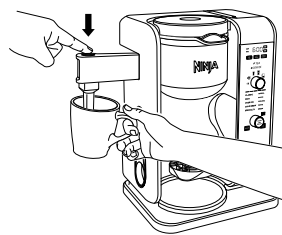

Fig. 21
- 4 Press and hold the frothing button for 30 to 45 seconds (Fig. 21).